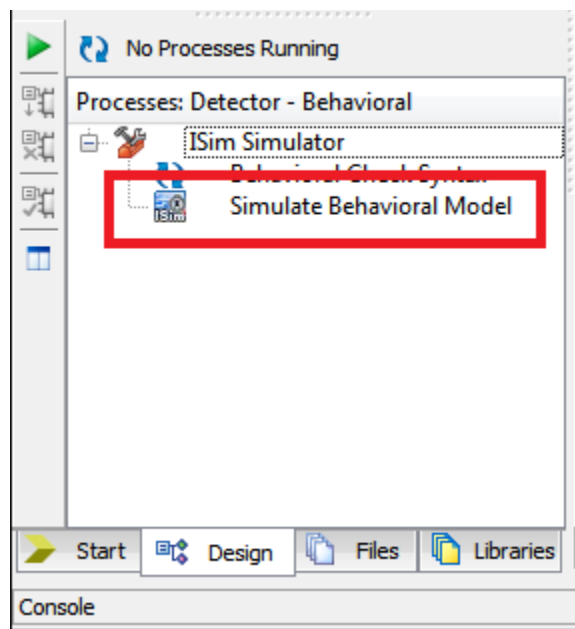

FIGURE 12 - LOCATING THE "SIMULATE BEHAVIORAL MODEL" FEATURE
3.2. Highlight the top module (CM0_DSSystem) and run the "Simulate Behavioral Model" process, which can be found below in Figure 12.